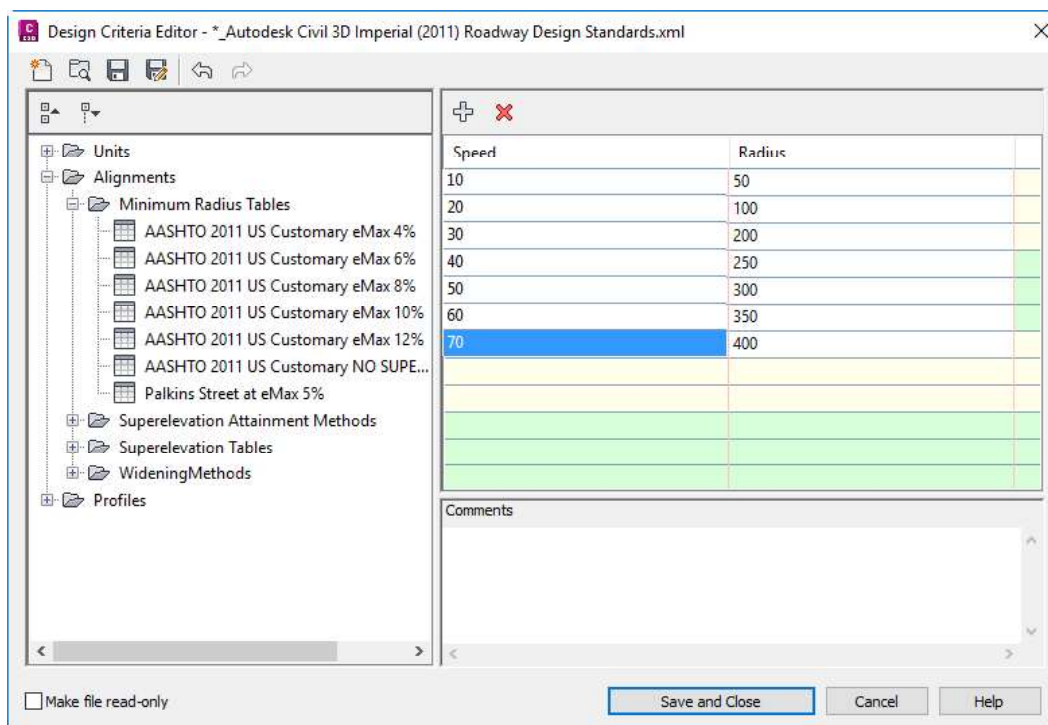

Figure 5-76 The radius defined for various design speeds
15. Similarly, enter values **200, 250, 300, 350, and 400** as **Radius** for the **Speed** values of **30, 40, 50, 60, and 70**, respectively, as shown in Figure 5-76.